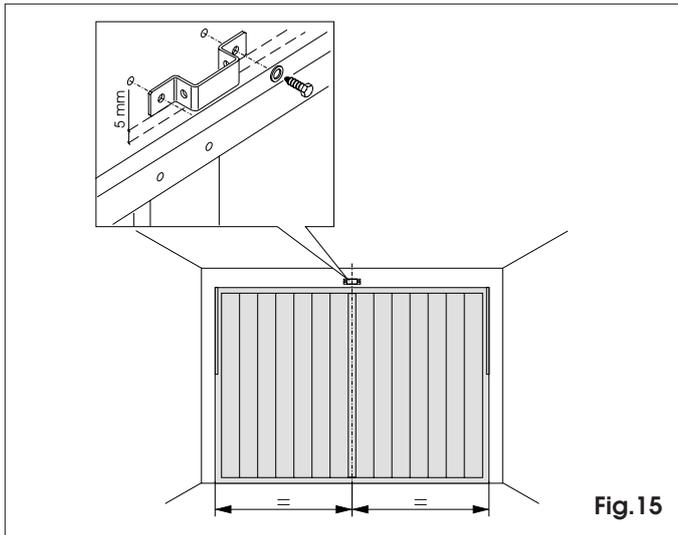

Fig. 15
7.3 Position the securing bracket 5 mm above the line you had marked, which must be centered with respect to the door (fig. 15).
7.5 Next, using screws and washers, screw the bracket on the expansion plugs (fig. 15).